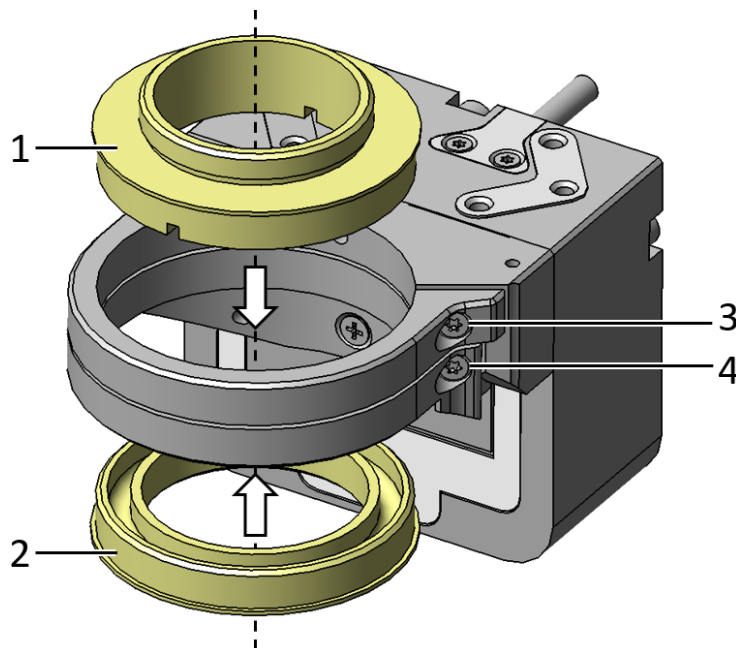

Fig. 3: Schematic diagram of parts relevant for mounting the P-725
The PIFOC focus scanners are inserted between the microscope turret and the objective using thread adapters (see Fig. 3). In addition, it is possible to mount the P-725 using the mounting holes in its base body (p. 15).
2. Use the Torx key to tighten the screw for the thread adapter on the objective side (refer to Fig. 3, p. 14).
6. Use the Torx key to tighten the screw for the thread adapter on the microscope side (refer to Fig. 3, p. 14).